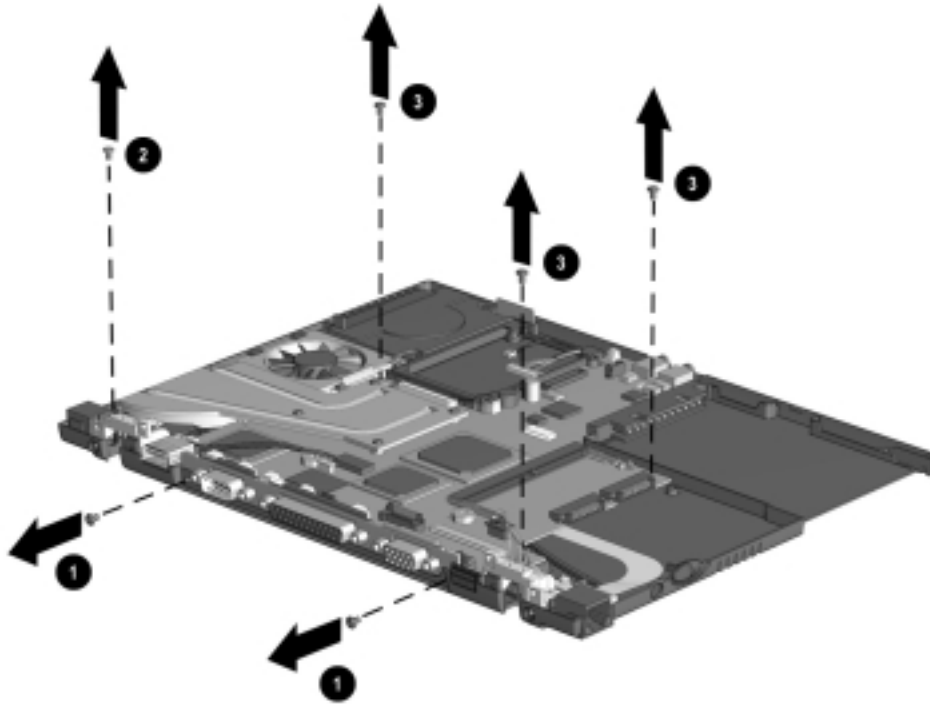

Figure 5-28. *Removing the System Board*
11. Remove the two screws from the back of the computer that secures the system board to the base enclosure ❶ (Figure 5-28).
12. Remove the silver screw from the heat sink ❷.
13. Remove the black screws from around the fan ❸, around the USB port ❸, and around the battery cable in the upper left of the board ❸.